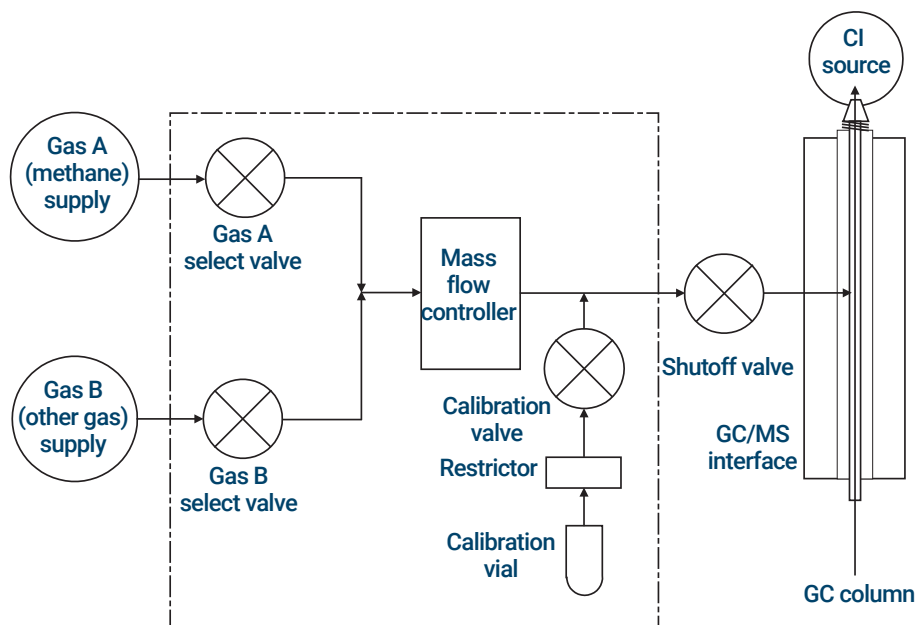

Figure 3. Schematic of CI flow control module
- 1 Look for the last seal that was disturbed. (See Figure 3 on page 57 and Table 4 on page 57.)
- Close valves starting at the gas select valves (Gas A, then Gas B), then close the shutoff valve. (See Figure 3 on page 57 and Table 4 on page 57.)